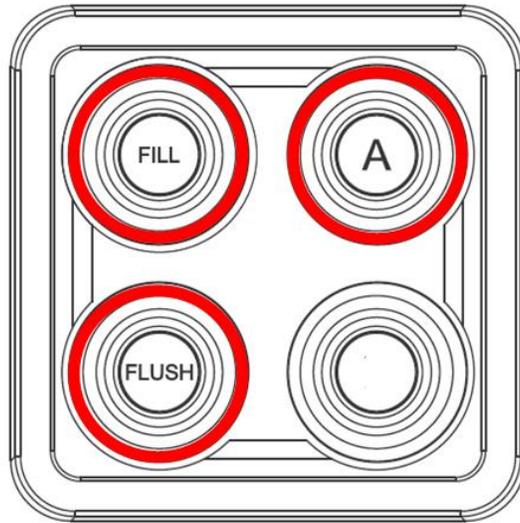

Figure 2-3: Single Tank Configuration
The SPC uses three push-buttons for Single Tank, and four for Dual Tank operation. The button borders are illuminated for status indication. See Figures 2-3 and 2-4.
(See Figures 2-3 & 2-4.)
(See Figure 2-3, 2-4, 2-5)
- The “A” button configuration is ON STEADY when foam TANK “A” is selected (Figures 2-3 & 2-4).